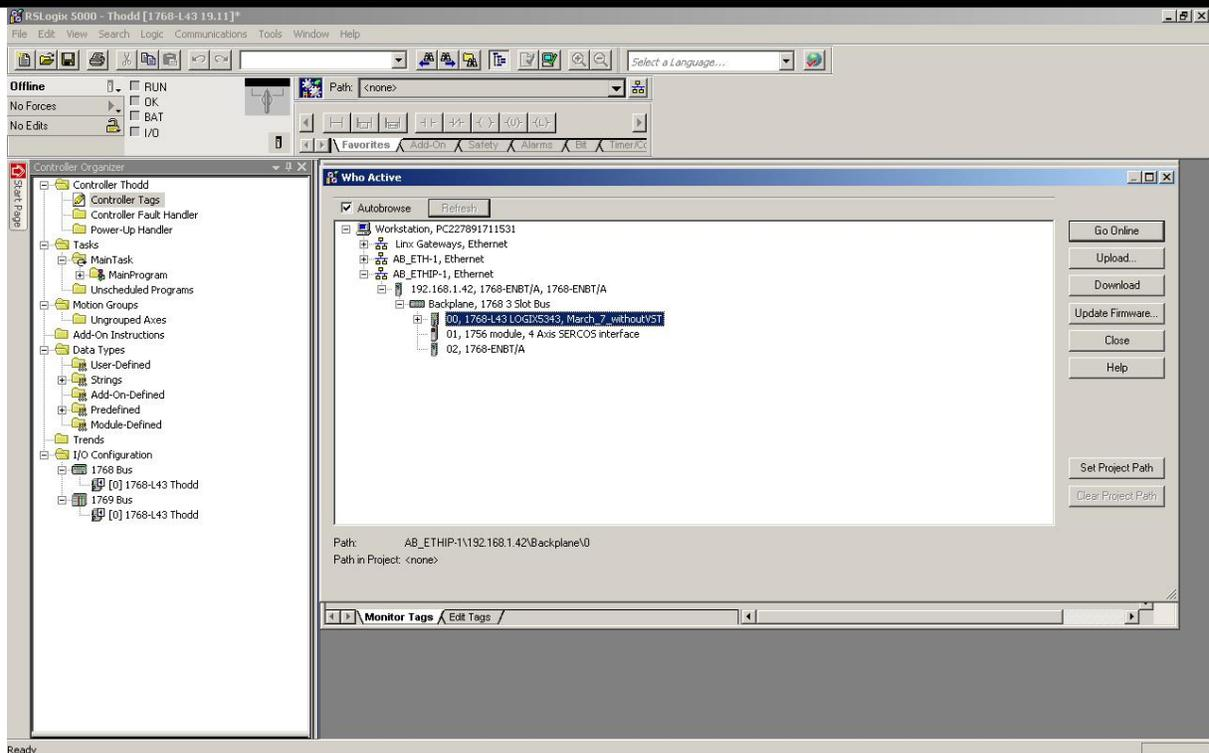

Fig. 6
5. Expand the ETHB node to find processor used and highlight. See Fig. 6 Below